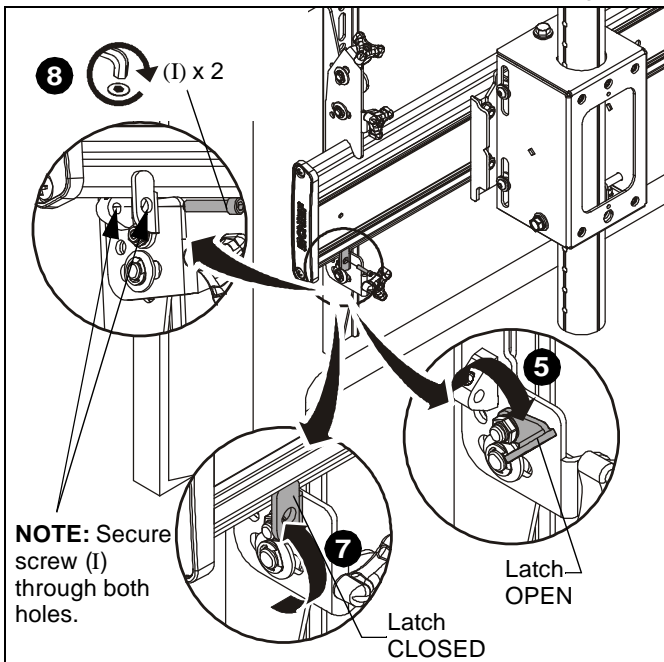

Figure 15
5. Open latch on attached interface brackets. (See Figure 15)
7. Raise latch on interface bracket and close into place against mounting rail. (See Figure 15)
8. Fasten latch into place using one 1/4-20 x 1-1/4" socket head screw (I). (See Figure 15)
NOTE: Socket head screws (I) must engage through both holes to be fully secured. (See Figure 15)